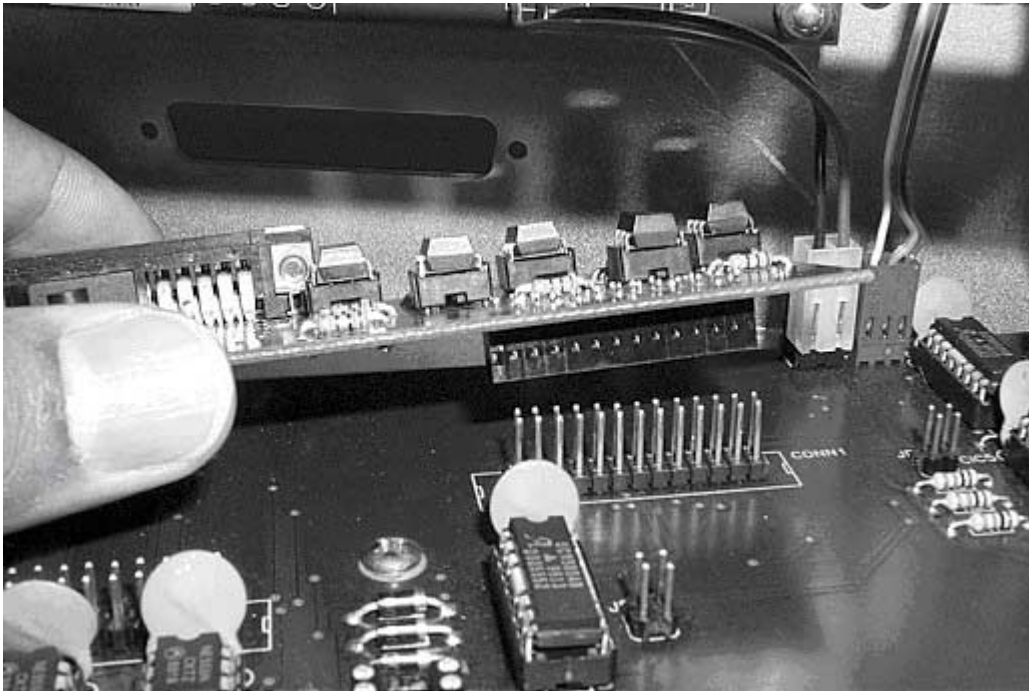

Figure 1-16. View of Daughter board attaching to the Main board.
13. Attach the Daughter board to the top of the Main board. See Figure 1-16.